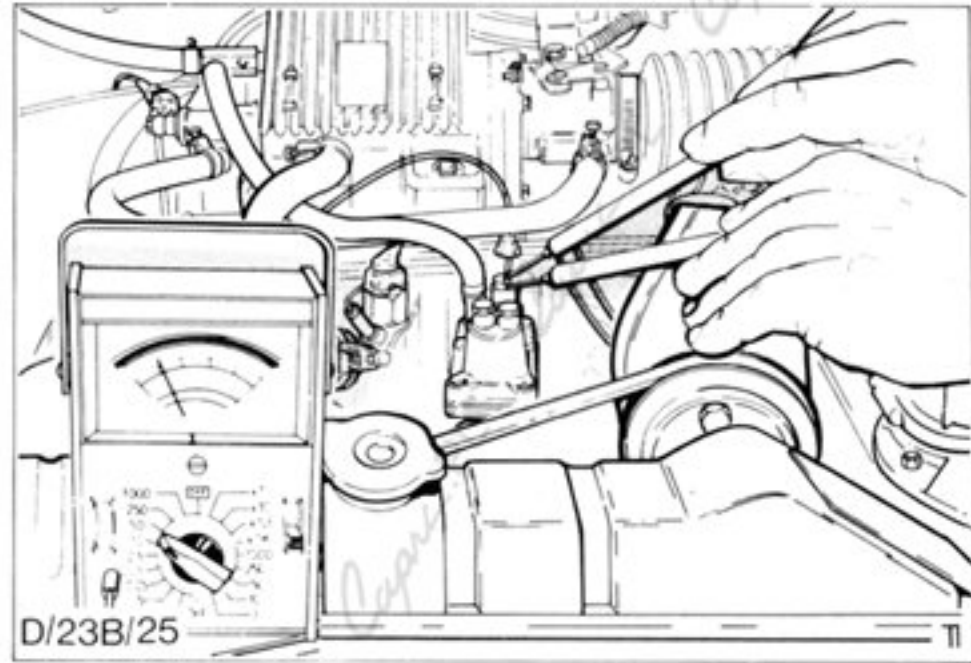

Fig.62. Voltage check at regulator plug.
- (ii) Peel back plug insulation and check voltage at the two connections, Fig.62. (Minimum voltage 11,5V).